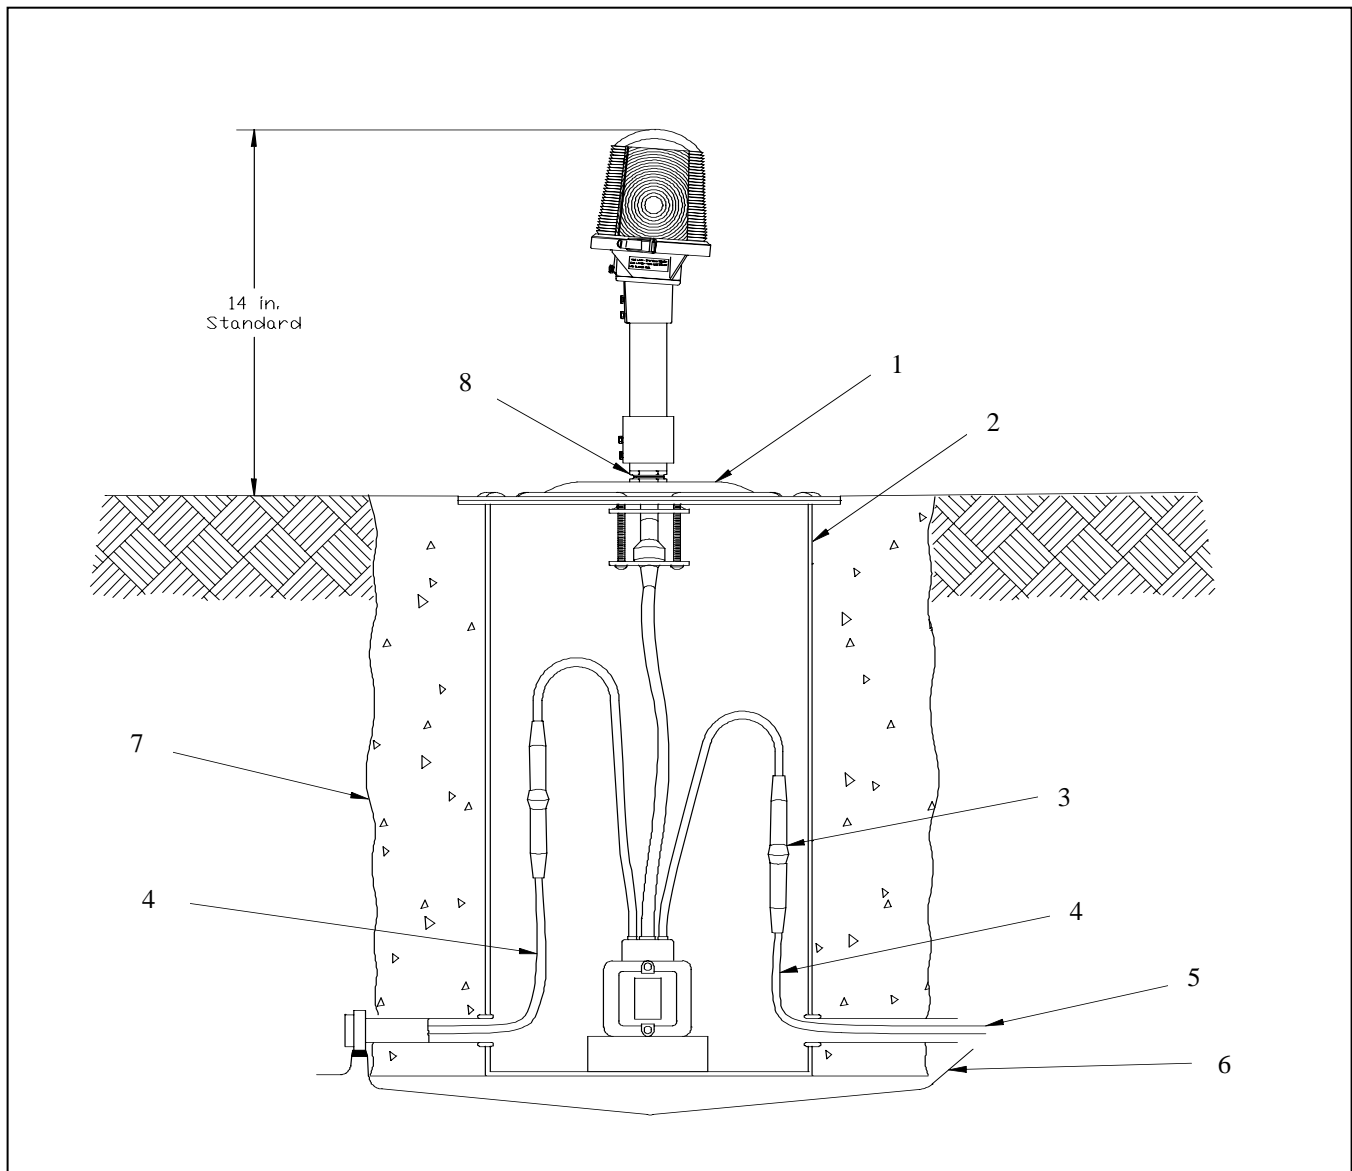

Figure 2. Base Mounting (on Base Plate with Extension)
1. See Figure 2. Install the L-867 base (2) on undisturbed soil. If the soil is unsuitable, remove soil to an adequate depth and replace with compacted acceptable material.
1. See Figures 2 and 3. Connect the primary power line to the appropriate L-830 isolation transformer. Refer to Table 4 for information about isolation transformers.